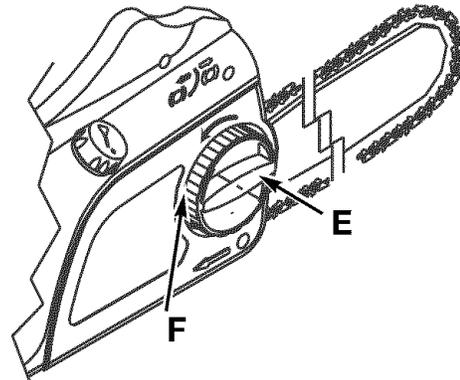

Fig. 24
1. Tensioning the chain can be accomplished with relative ease. Turn knob (E) counter clockwise. Then turn ring (F) counter-clockwise to loosen chain or clockwise to tighten chain (Fig. 24).